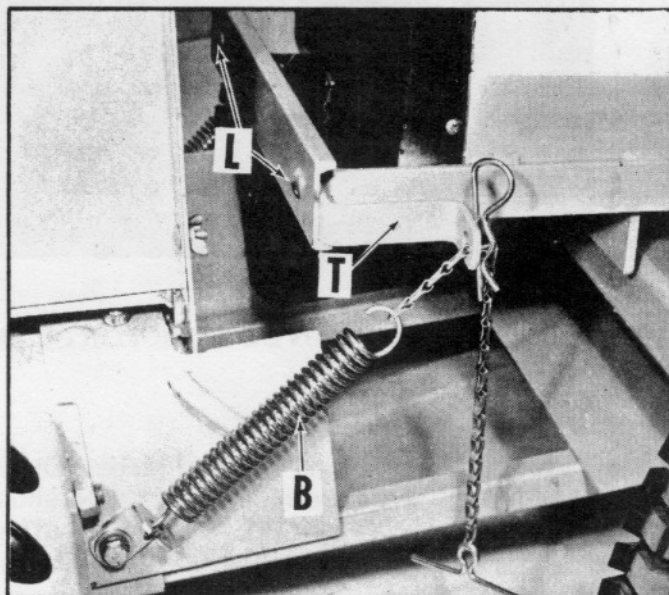

Fig. 8
Attach spring (B) to angle bracket on left side. On right hand side attach spring (B) to hole in lift bracket. Thread toggle chain through chain bracket and attach it to lift spring (B) as shown in (Fig. 8 & 9). Repeat procedure for opposite side of tractor. Raise Snow Thrower with tractor lift lever to highest position. Then pull toggle chain through angle bracket exerting slight pressure on the lift spring and lock into position by inserting hair cotter pin in lift chain.